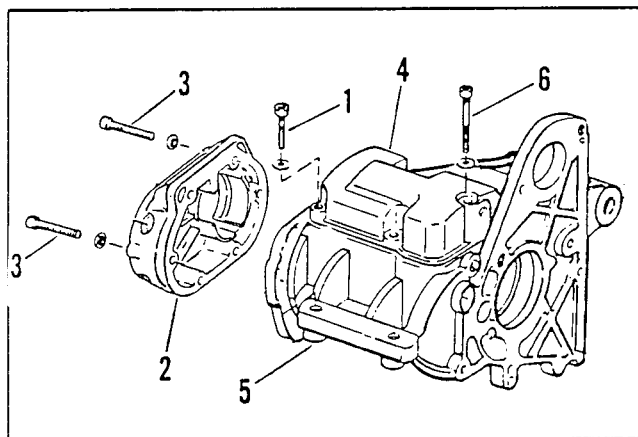

Figure 1. Transmission Assembly
11. See Figure 1. Remove bolts (1) and (6) from top cover. Move top cover clear of vehicle to the right between cylinder and exhaust pipe.
1987-1988 (all models) See Figure 1. Remove bolts (3) from side cover (2). Bottom two bolts will have to be removed with side cover to clear muffler. Remove side cover (2).